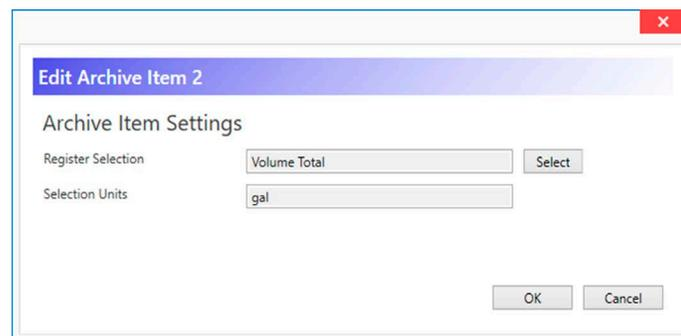

Figure 6.12—Archive register selection
You may edit archive items 1 through 7 from a list of pre-defined registers to be stored at the user-specified intervals, and published at the user-specified contract hour. The Edit Archive Item dialog (Figure 6.12) shows the units in which the selected archive item will be stored. Units are not editable from the Archive Setup menu. The K-factor, meter factor, totals, and flow rate units may be configured in the Device Units menu.